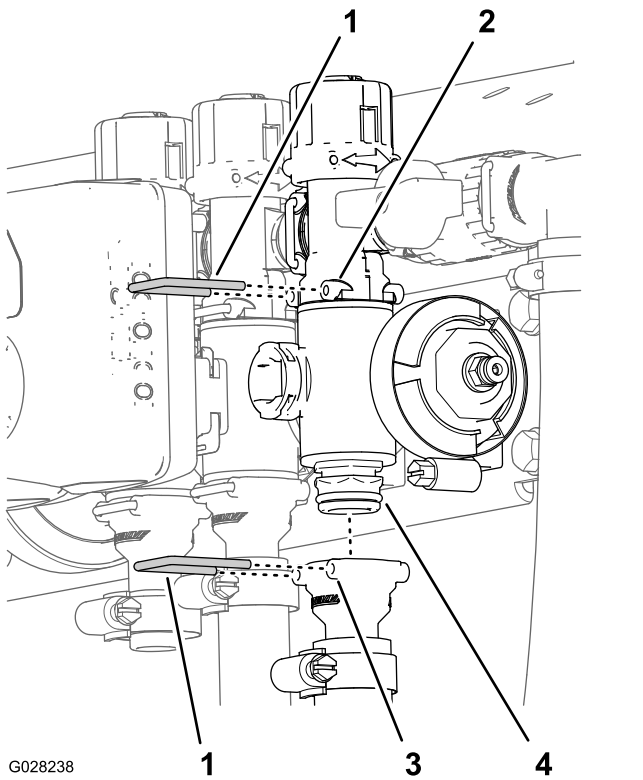

Figure 120
- Remove the retainers that secure the outlet fitting to the section valve manifold and the valve manifold to the bypass fitting (Figure 120).